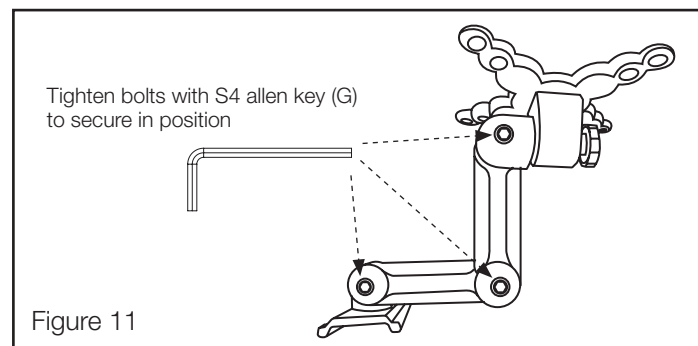

Figure 11
Other viewing angles can be made by simply moving the arm side to side and locked into place by tightening the bolts located on the top of the mounting arm using the S4 allen key (G) (see Figure 11).